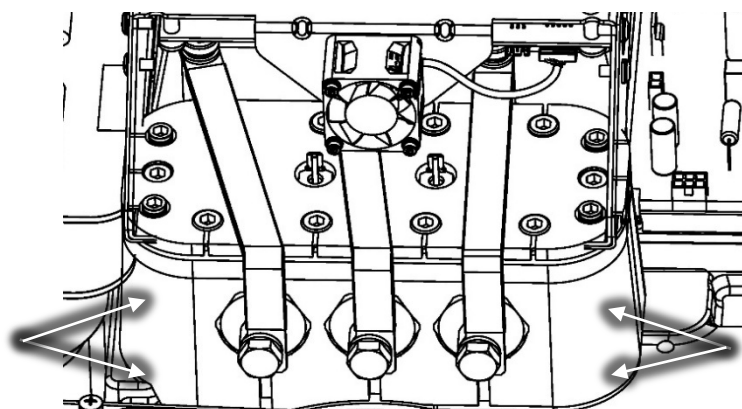

Figure 3 – Soft Start Mounting Fasteners
10. Remove the M5x15 fasteners that secure the Soft Start mounting bracket to the compressor. Refer to Figure 3 (Soft Start Mounting Fasteners).